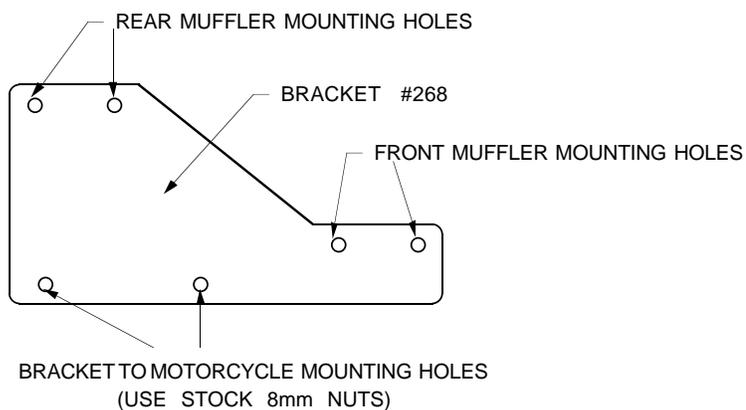

Figure 1
2. Install the muffler mounting bracket (stamped 268) to the original muffler mounting point, using the two stock 8mm nuts. Refer to figure 1.